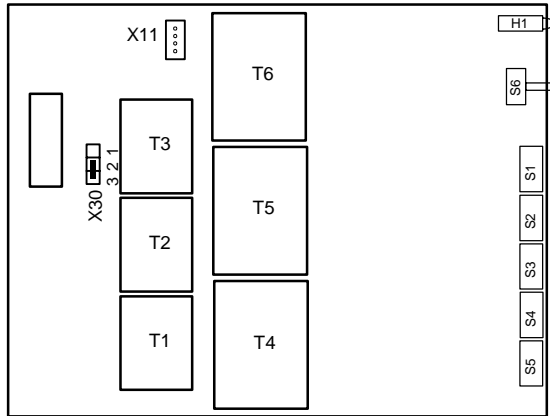

Figure 2-5 Jumper location for the 7SJ45 with relay output
The trip circuit can be adapted to the system connecting a jumper to the p.c.b. (see Figure 2-5).
- Re-locate short-circuit jumper X30. Figure 2-5 illustrates the jumper location on the module.